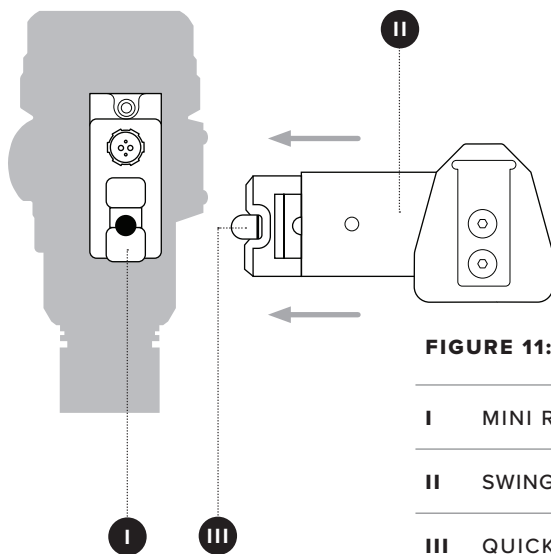

FIGURE 11:
2. Align mini rail receiver of swing arm to mini rail on OPSIN and slide straight back until locking arm clicks into place (see **FIGURE 11**). This may require loosening set screw - see guidance above (**FIGURE 10**).